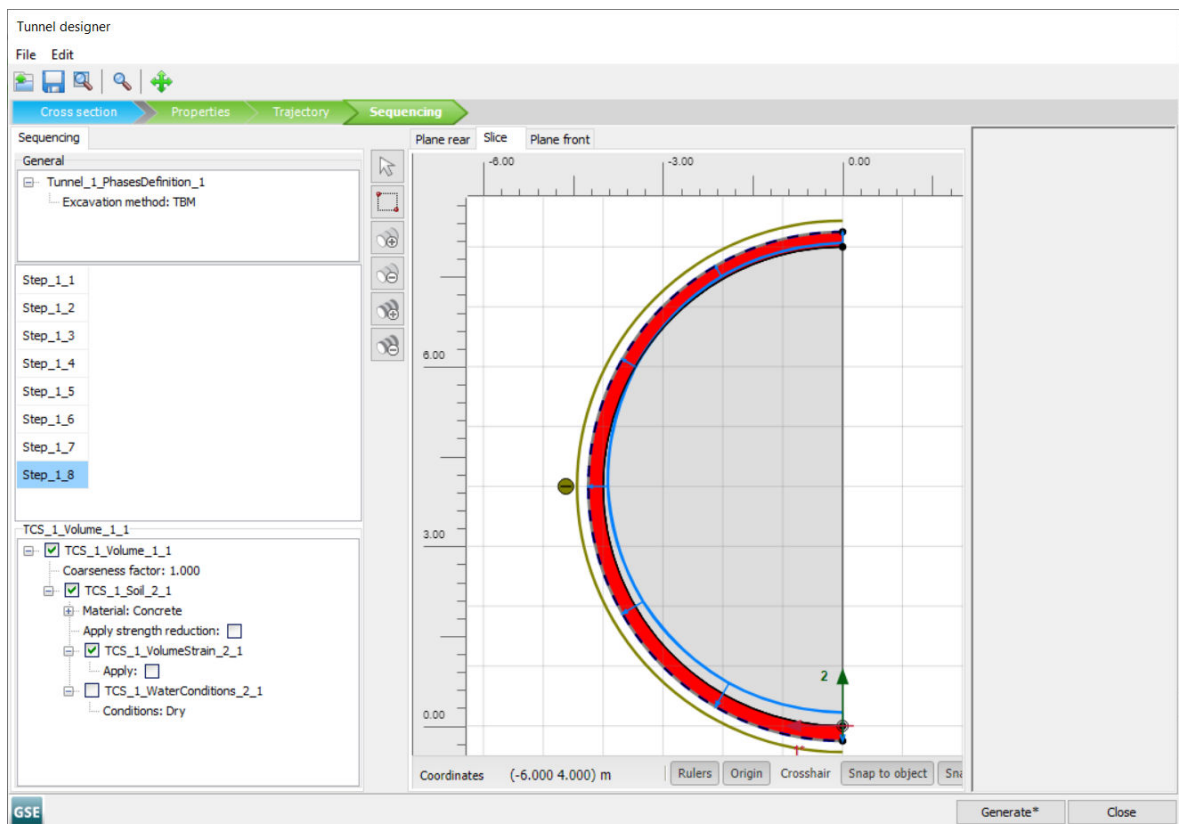

Figure 79: Slice tab Tunnel designer <Step_1_8> Material definition for final lining
- Continuing in the **Slice** tab again, select the outer volume (or lining). Activate it and in the **Selection explorer** click on the **Material** drop-down list and select the *Concrete* option (Figure 79 (on page 105)).